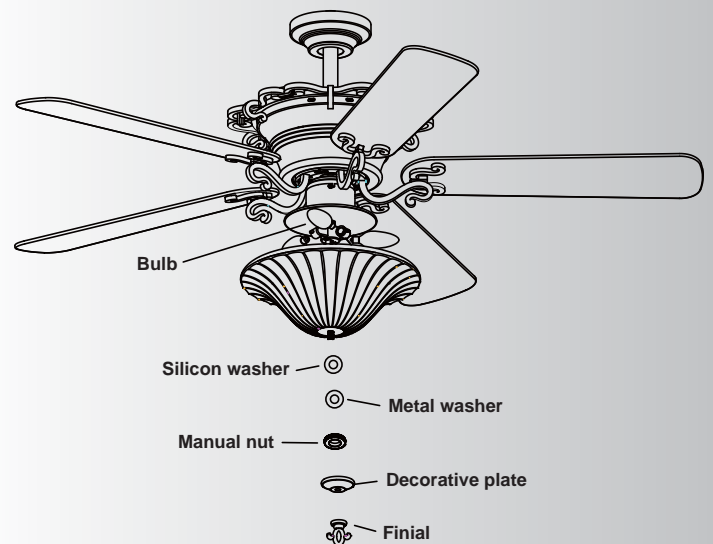

Fig. 22
Step 1. Slide the glass shade over the threaded pipe. Place the silicon washer/ metal washer and thread the manual nut onto the pipe. Place the decorative plate and tighten the glass bowl with the finial. (Fig. 22)